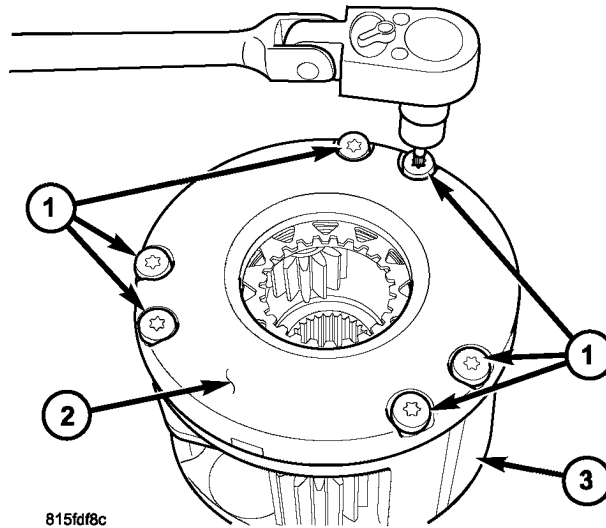

Fig. 3 REMOVE PLANETARY COVER BOLTS
7. Remove the bolts holding the planetary cover to the planetary assembly (Fig. 3).
14. Install the bolts to hold the planetary cover to the planetary assembly . Tighten the bolts to 9 N·m (6.5 ft.lbs.) (Fig. 3).